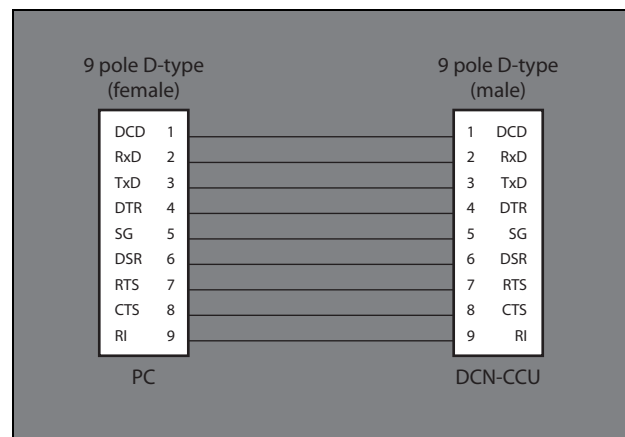

figure 8.17: PC to DCN-CCU
- 8 Connect the serial port of the temporary PC to the serial port 2 of the central control unit (refer to figure 8.17).